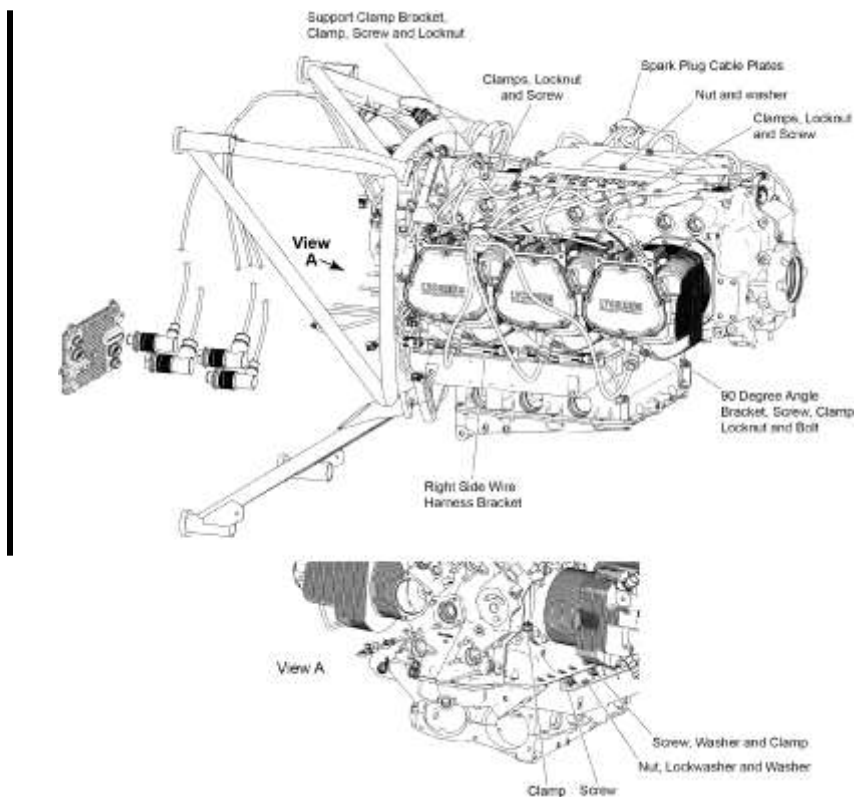

Figure 46
- D. Disconnect the wiring harness (Figure 46) from the ECU per the airframe manufacturer's instructions.
- K. If a harness is to be replaced with a new harness, identify the location of each clamp (Figures 46 and 47) by a label on the clamp.
C. Put the wiring harness on the engine as shown in Figures 46 and 47.
E. Install the left and right side harness brackets (Figures 46 and 47) on respective sides of the wiring harness with the attaching screws, washers, and new lock nuts. Torque the hardware as per the Standard Torque Tables in the latest revision of the *Service Table of Limits - SSP-1776*.